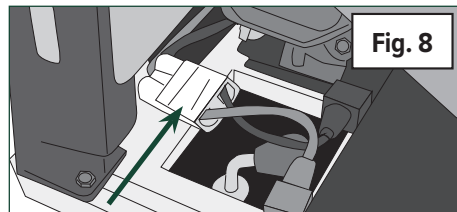

Fig. 8
4. **(Fig. 8)** Plug the battery harness connector into the gray engine harness connector.
1. **(Fig. 8)** Connect the curved plastic elbow marked “**BLOWER**” onto the blower intake opening and secure it with the two latches.